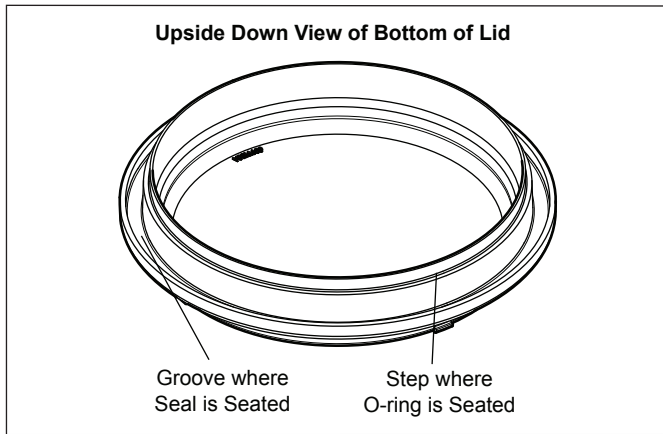

Figure 5. Placement of Blue Pressure Test O-ring
2. Place the blue o-ring on the step located $\frac{1}{4}$ " from the bottom of the lid. See Figure 5.
NOTE The blue o-ring sits approximately ¼" away from the seal. See Figure 5.